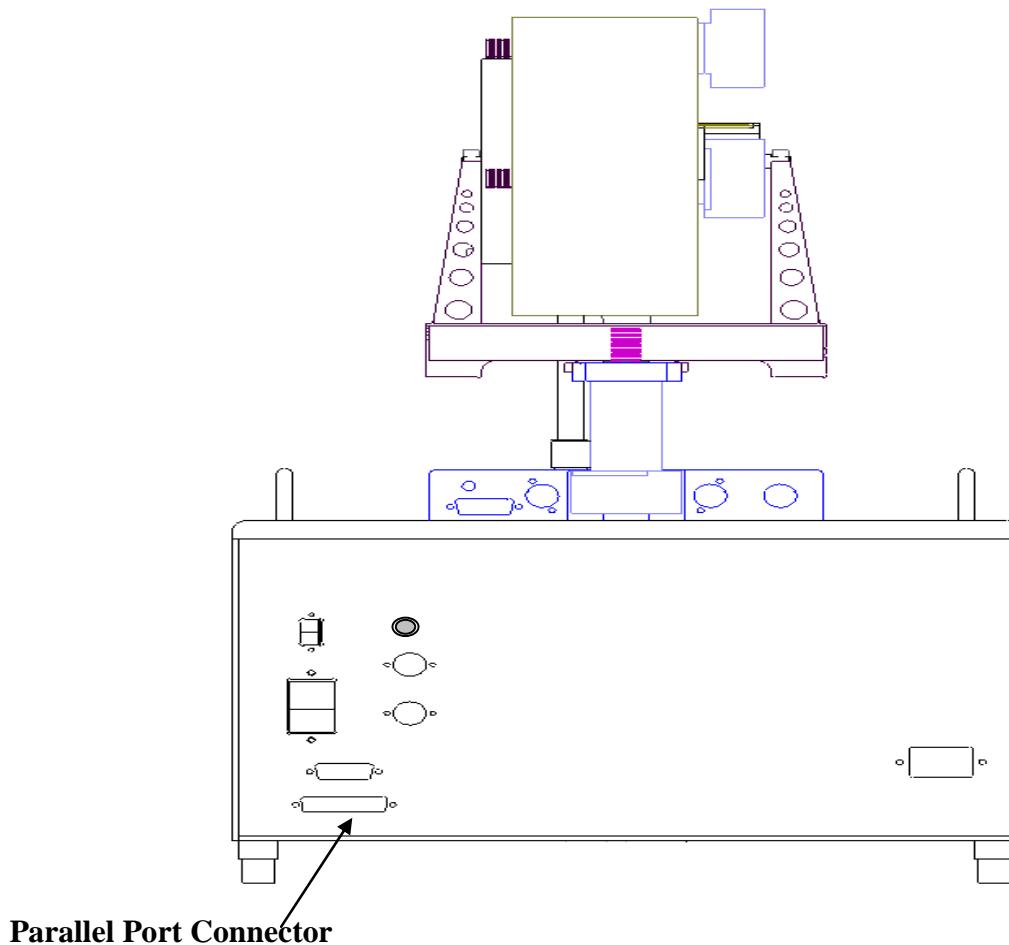

Figure 15: PHANTOM Premium, rear view
2. Connect all cables except the AC Power Cable between the computer, Haptic Arm and The Amp Box (Figure 15).